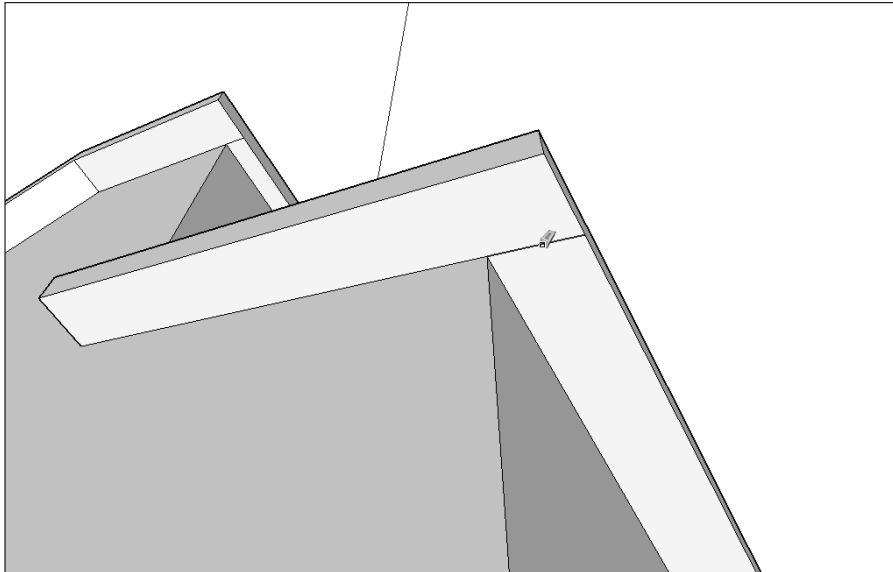

Figure 11-8:
- ✔ **Get rid of extra geometry.** Lots of times when you're modeling, you end up with edges (and even faces) that don't have a purpose. Figure 11-8 shows a prime example of the kinds of little edges you can erase to drastically reduce the number of faces in your model.